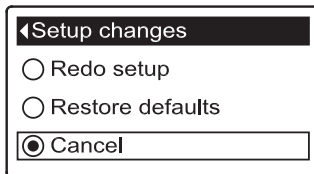

FIG. 83
1. From any of the rolling status screens, press the SELECT (O) button to display the **Main menu**.
3. Press the SELECT (O) button to display the Advanced settings menu.
5. Press the SELECT (O) button to display the Troubleshooting menu.
7. Press the SELECT (O) button to display the Setup changes menu (See Figure 83).
8. Press the RIGHT (▶) button. The flashing padlock icon will disappear, as shown in Figure 83.
9. Press the SELECT (O) button.